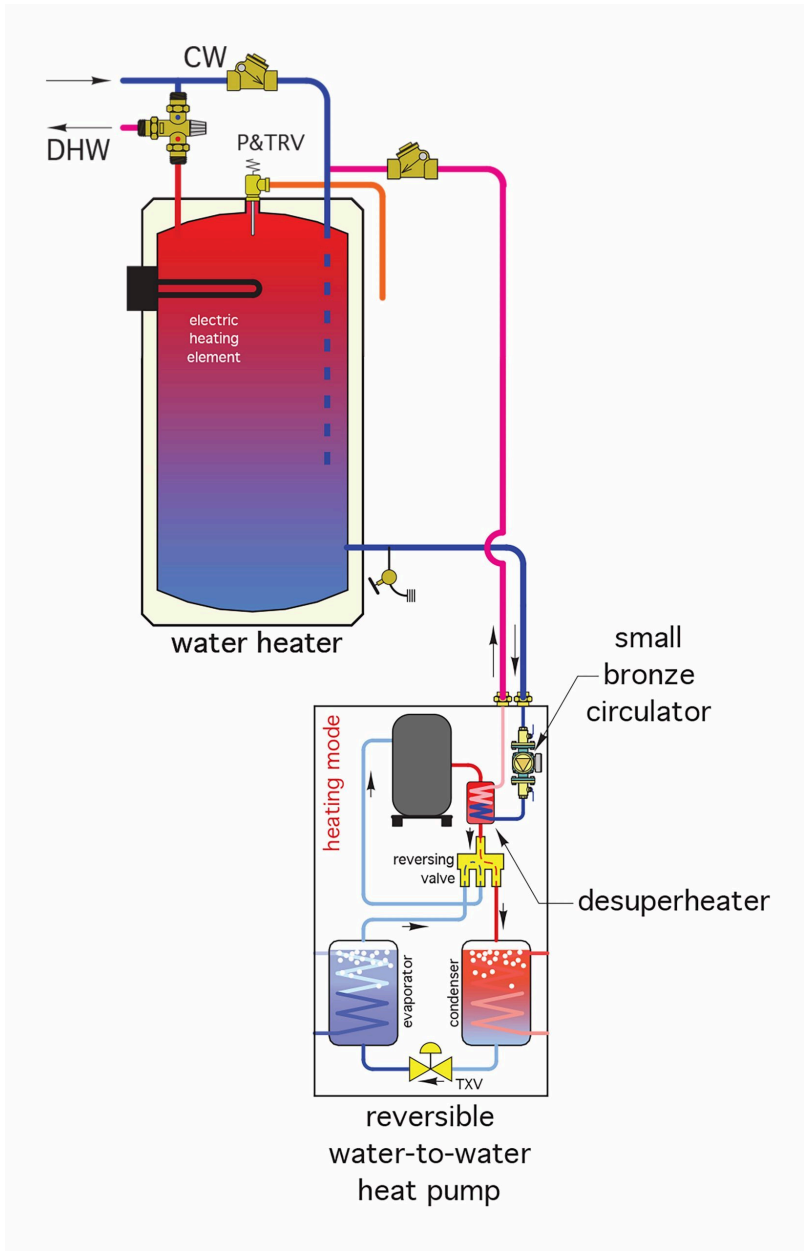

Figure 3 Heating domestic water using “reject” heat
- Figure 3 Two pipes horizontally in trench © Caleffi Hydronic Solutions. Used with permission.
Consequently, reversible heat pumps used in residential buildings are mainly of the air-to-air type. Regardless of the type of system used, the heat that is rejected by the system in its cooling mode can be diverted and used to heat domestic hot water, as shown in Figure 3 below.